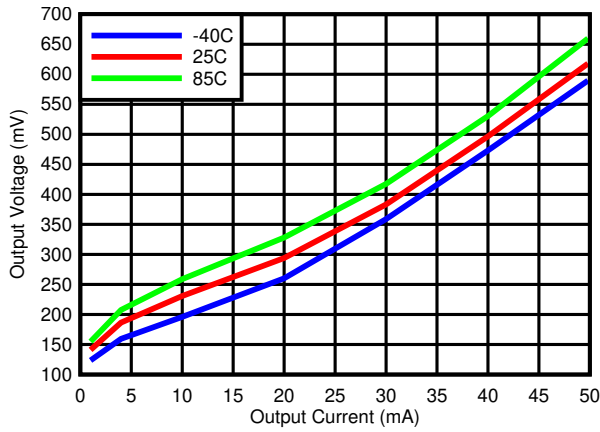
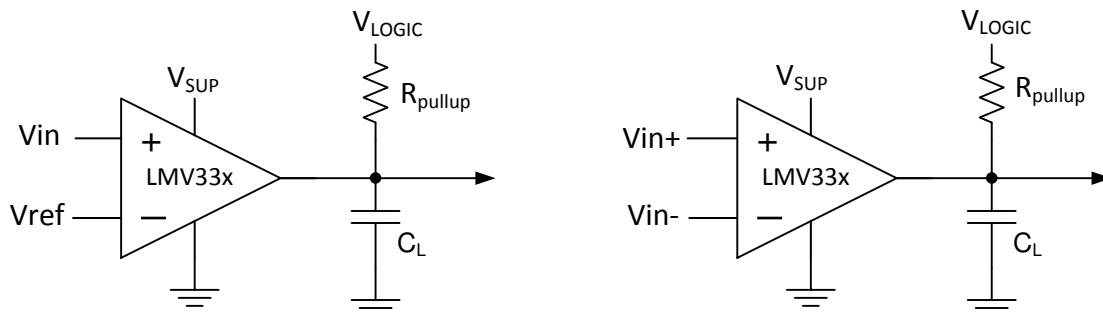

图 5-3. Output Voltage vs Output Current
图 7-1. Typical Application Schematic
The output consists of an open drain NPN (pull-down or low side) transistor. The output NPN sinks current when the negative input voltage is higher than the positive input voltage and the offset voltage. The V_{OL} is resistive and scales with the output current. Please see 图 5-3 for V_{OL} values with respect to the output current.
Output current is determined by the pull-up resistance (R_{pullup}) and V_{logic} voltage, refer to 图 7-1. The output current produces a output low voltage (V_{OL}) from the comparator. In which V_{OL} is proportional to the output current. Use 图 5-3 to determine V_{OL} based on the output current.
- R_{CE} can be determine by taking the slope of 图 5-3 in it's linear region at the desired temperature, or by dividing the V_{OL} by I_{out}